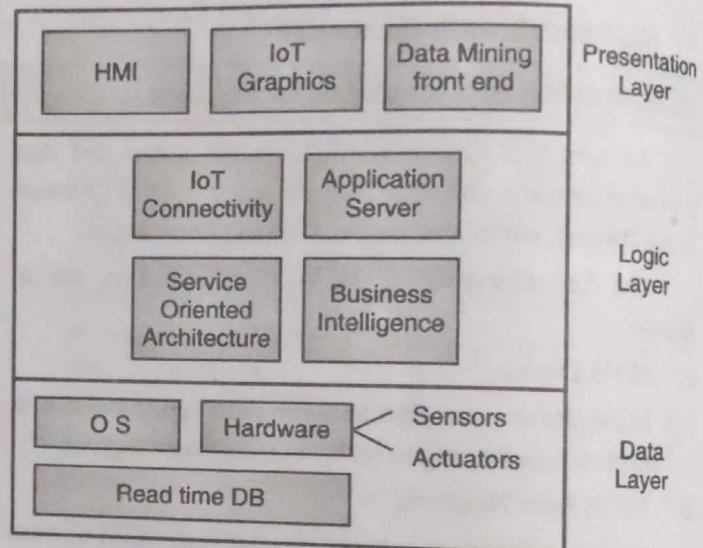

Fig. 5.3.1 : Multitier IoT Middleware
Based on the middleware perspective studied in last section IoT based application realization can be done with the help of WoT. The following framework satisfies the middleware requirement for WoT. The Fig. 5.3.1 shows middleware approach for IoT which can also be considered for WoT as WoT is nothing but application overview of IoT.
- As shown in Fig. 5.3.1 the basic three tiered architecture consists of the data layer, logic layer (middleware) and presentation layer (User Interface).